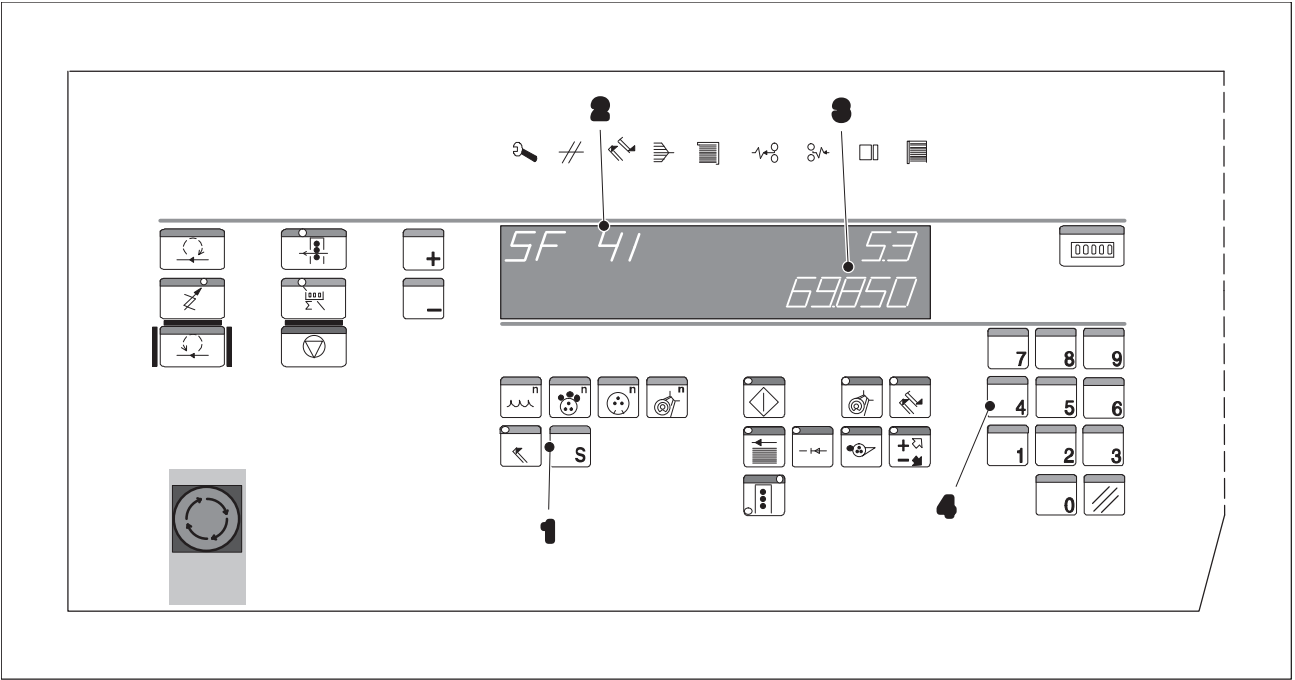

Fig. 1 Press revolutions (special function 41)
1. Select the **Special functions** menu: touch the *Special functions* button (Fig. 1/1).
The letters "SF", the identification number of the special function selected last and additional information are displayed (Fig. 1/2).
2. Use the numeric keypad (Fig. 1/4) to enter the identification number 41 for the press revolutions.
The display will show the total number of press revolutions (Fig. 1/3).
Explanations for the display in figure 1:
3. Exit the special function by touching the *Special functions* key (Fig. 1/1) again.